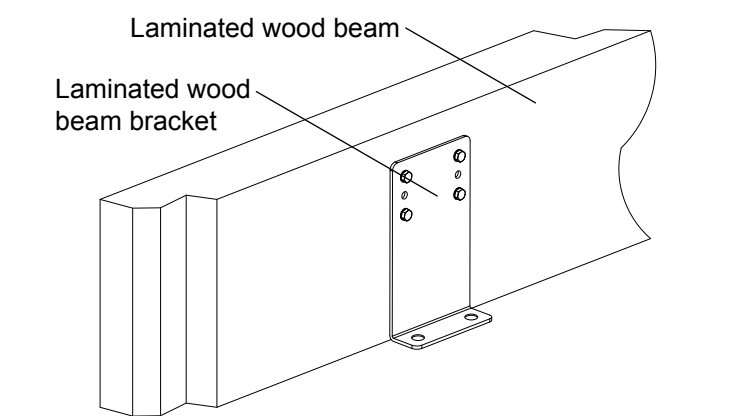

Figure 5
- Attach mount assembly to the laminated wood beam brackets using the supplied 1/2" dia x 2-1/2" screws and lock nuts and washers. Torque to 44-48 ft-lbs. See Figure 5.